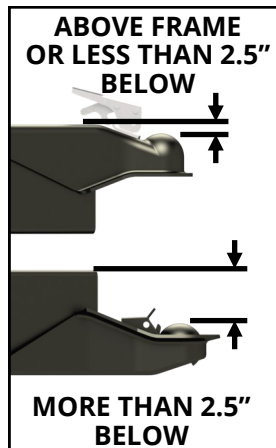

FIGURE A1:
- B&W Kit# WDHL4510 is necessary if the top of the coupler is above the trailer frame or *less than 2.5"* below the top of the trailer frame, **see top half of Figure A1.**
- B&W Kit# WDHL4511 is necessary if the top of the coupler is *more than 2.5"* below than the top of the trailer frame, **see bottom half of Figure A1.**